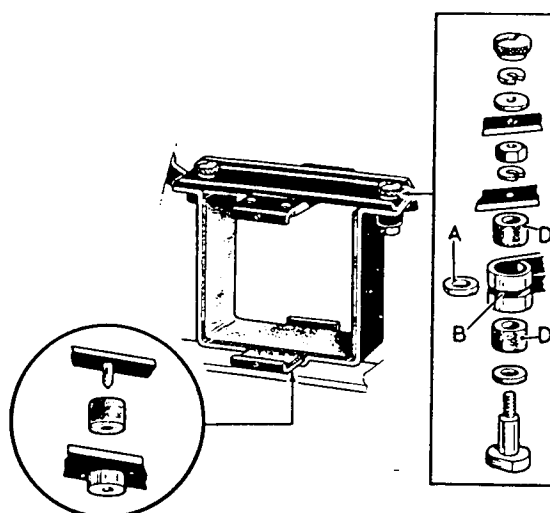

FIG. D.9. Battery carrier (1966/7).
If the carrier is removed for any reason it is essential that the reassembly is carried out in the order shown in Fig. D.9. The plain washer (A) fits into slot (B) with rubber bushes (D) on each side.
Normally, the carrier need not be disturbed, but if for some reason it is taken off care must be taken when replacing it. The fitting instructions are the same as for the 1966/7 carrier (Fig. D.9), but to avoid undue pressure on the sides of the battery case, it is essential that the carrier when mounted measures $5\frac{1}{4}$ in. between the two sides internally, excluding the rubber pads. Should there be any tendency for this dimension to be less than $5\frac{1}{4}$ in. at the top, it can be ad-